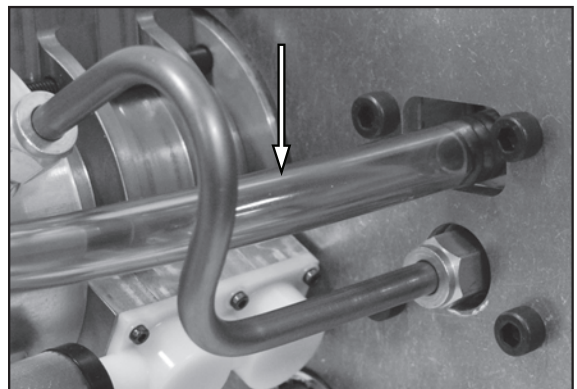

Figure 56.
2. See Figure 56. Remove the hose.